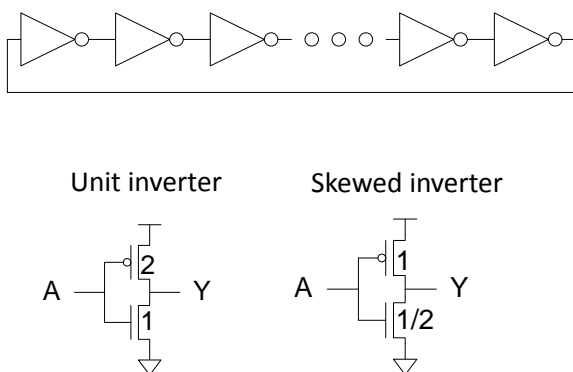

Fig. 4
- A ring oscillator composed of N-stages identical inverters is as shown in Fig. 4. Assume the effective resistance of an unit inverter (P:2, N:1) is $5k\Omega$ and parasitic capacitance is $10fF$. (5%)